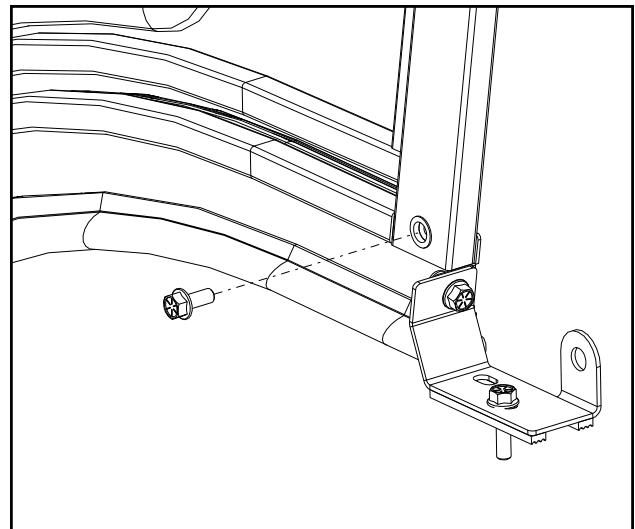

Fig. 23.4 (hardware for sideframes - right)
23.4 Install the hardware listed below into the exposed rivet nuts found on the inside of the sideframes. See fig. 23.4.